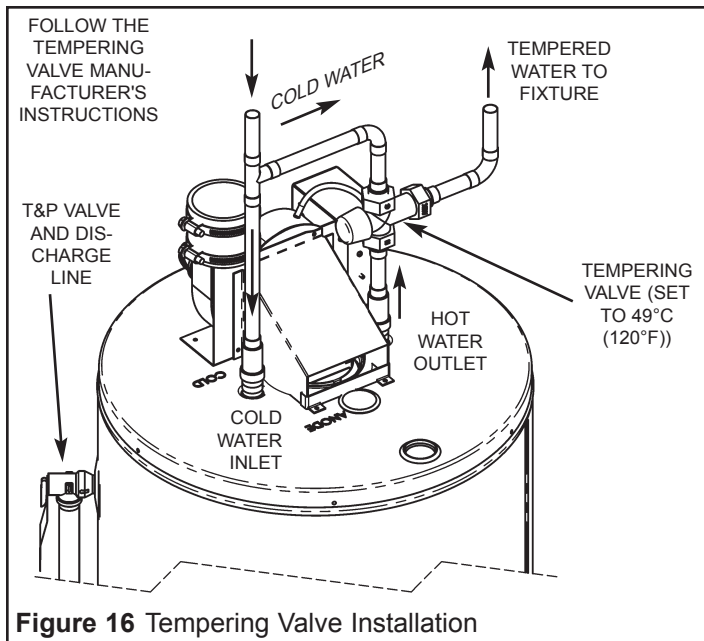

Figure 16 Tempering Valve Installation
3. The manufacturer of this water heater recommends installing a tempering valve in the domestic hot-water line as shown in Figure 16. These valves reduce the point-of-use water temperature by mixing cold and hot water. Contact a licensed plumber or the local plumbing authority.